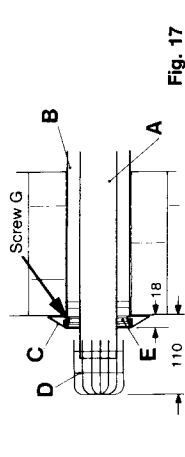

Fig. 17
Separate the two tubes by removing screw G (fig 17).
**5.5.8** Ensure inner and outer terminal tubes are firmly fitted together with screw G (fig 17). Push the terminal tubes through the wall until the face of the outer tube protrudes 18mm from the face of the wall (fig 17). The terminal grill (D) will then protrude 110mm from the wall face.
NOTE: The two tubes must be separated by removing screw G fig 17 before cutting.
- 5.5.15** Check also that the outer end of the flue projects as indicated in fig 17.
- 5.5.18** Seal the peripheral gap around the outer tube with cement or mastic and slip the cosmetic flexible plastic collar (fig 17) item C) into groove on the pipe. This operation can only be carried out with external access. Seal the internal wall face around the air duct.